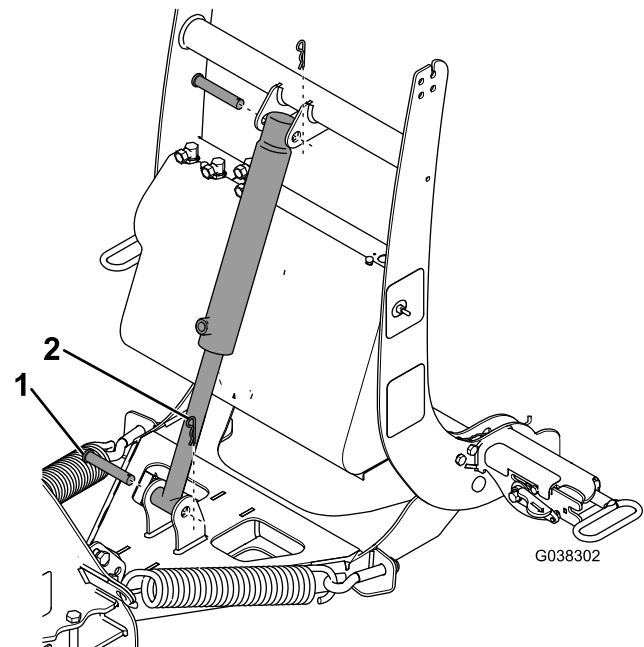

Figure 6
- Secure the rod end of the lift cylinder to the push-frame assembly using a clevis pin (5/8 inch) and hairpin cotter (Figure 6).
- Secure the free end of the lift cylinder to the coupler tower using a clevis pin and hairpin cotter (Figure 6).